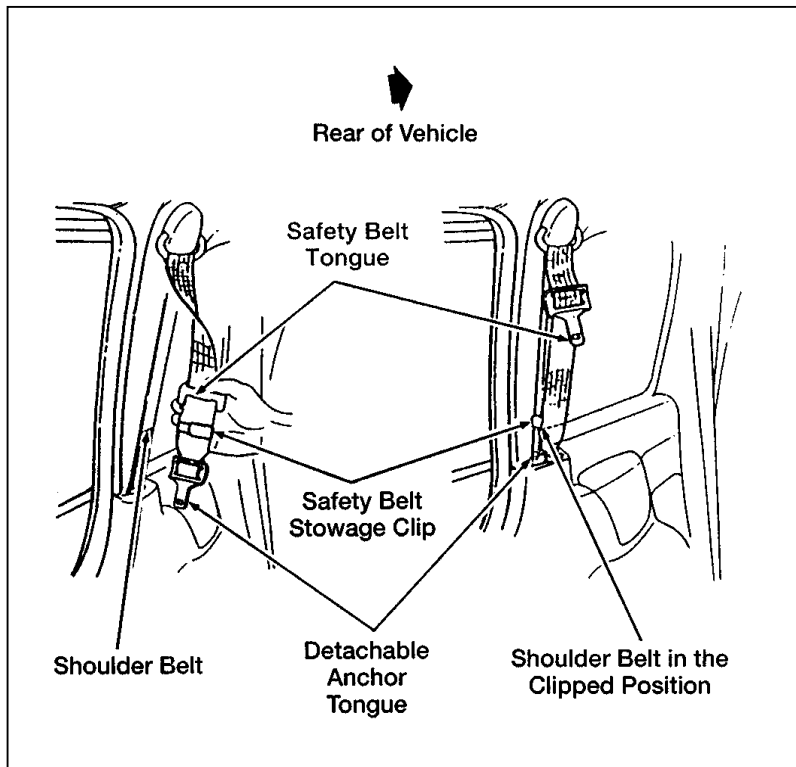

Figure 2: Securing the detachable shoulder belt
- Using the clip attached to the end of the shoulder belt, clip the end of the belt to the stationary portion of the shoulder belt coming out of the trim (see Figure 2). The end of the shoulder belt **must** be clipped in order to keep it from striking anything during vehicle operation.